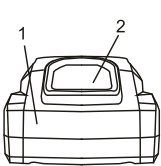
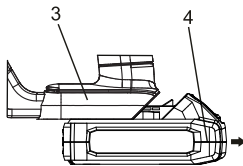

Fig. 3
Fig. 4
1. Remove the discharged battery pack (1) from the tool by pressing the battery release button (2) on the rear of the battery downward (Fig. 3) and pulling the battery pack out of the tool handle (3) (Fig. 4).